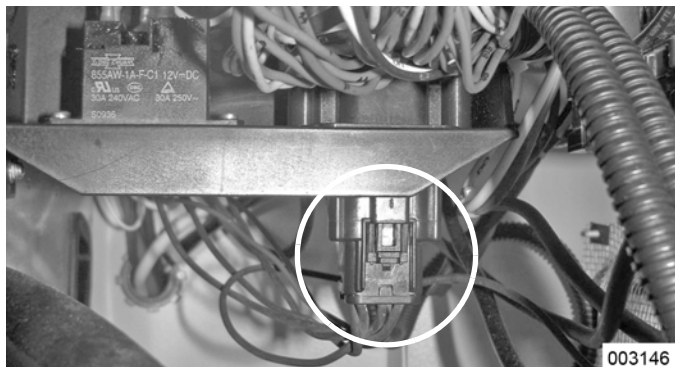

Figure 2-12. C1 Connector (if unit is equipped)
7. See Figure 2-12. Disconnect the lower bulkhead C1 connector (if unit is equipped.)
3. If the meter indicated a resistance value of OPEN in Step 6 and a value less than 0.2 ohms in Step 9, repair or replace Wire 44 between the controller and the C1 connector (if unit is equipped, see Figure 2-12).